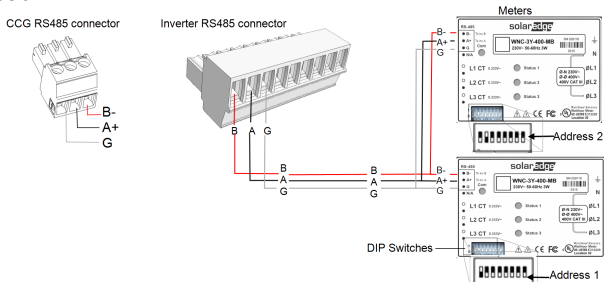

Figure 18: Connecting the meters to the inverter or CCG RS485 connector
1. Connect the twisted pair of wires to the meters as shown in *Figure 18*.